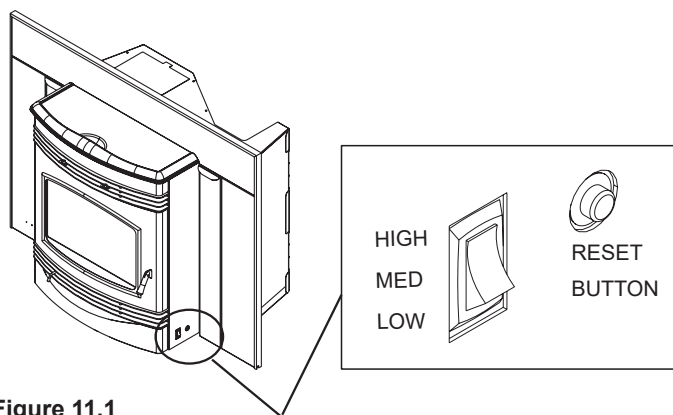

Figure 11.1
This appliance is equipped with a heat output control switch that has three settings or burn rates; low, medium and high (**Figure 11.1**). The appliance will turn on and off as the thermostat demands. When the thermostat calls for heat, the appliance will always start up on High. After burning approximately 4 minutes, the appliance will then burn at the rate at which it was originally set. If the appliance is set at one of the lower settings, it will run quieter but takes longer to heat up an area than if it were set at a higher burn rate. Regardless of the burn rate, when the area is warm enough to satisfy the thermostat, the appliance will shut off.
3. Occasionally the appliance may run out of fuel and shut itself down. When this happens, the red call light will be on (**Figure 11.1 on page 11**). To restart it, fill the hopper and press the reset button. When you press the reset button the red call light will go out. Release the button and the light will come back on. You should see a fire shortly. If not, follow the instructions on page 10, "Starting Your First Fire".